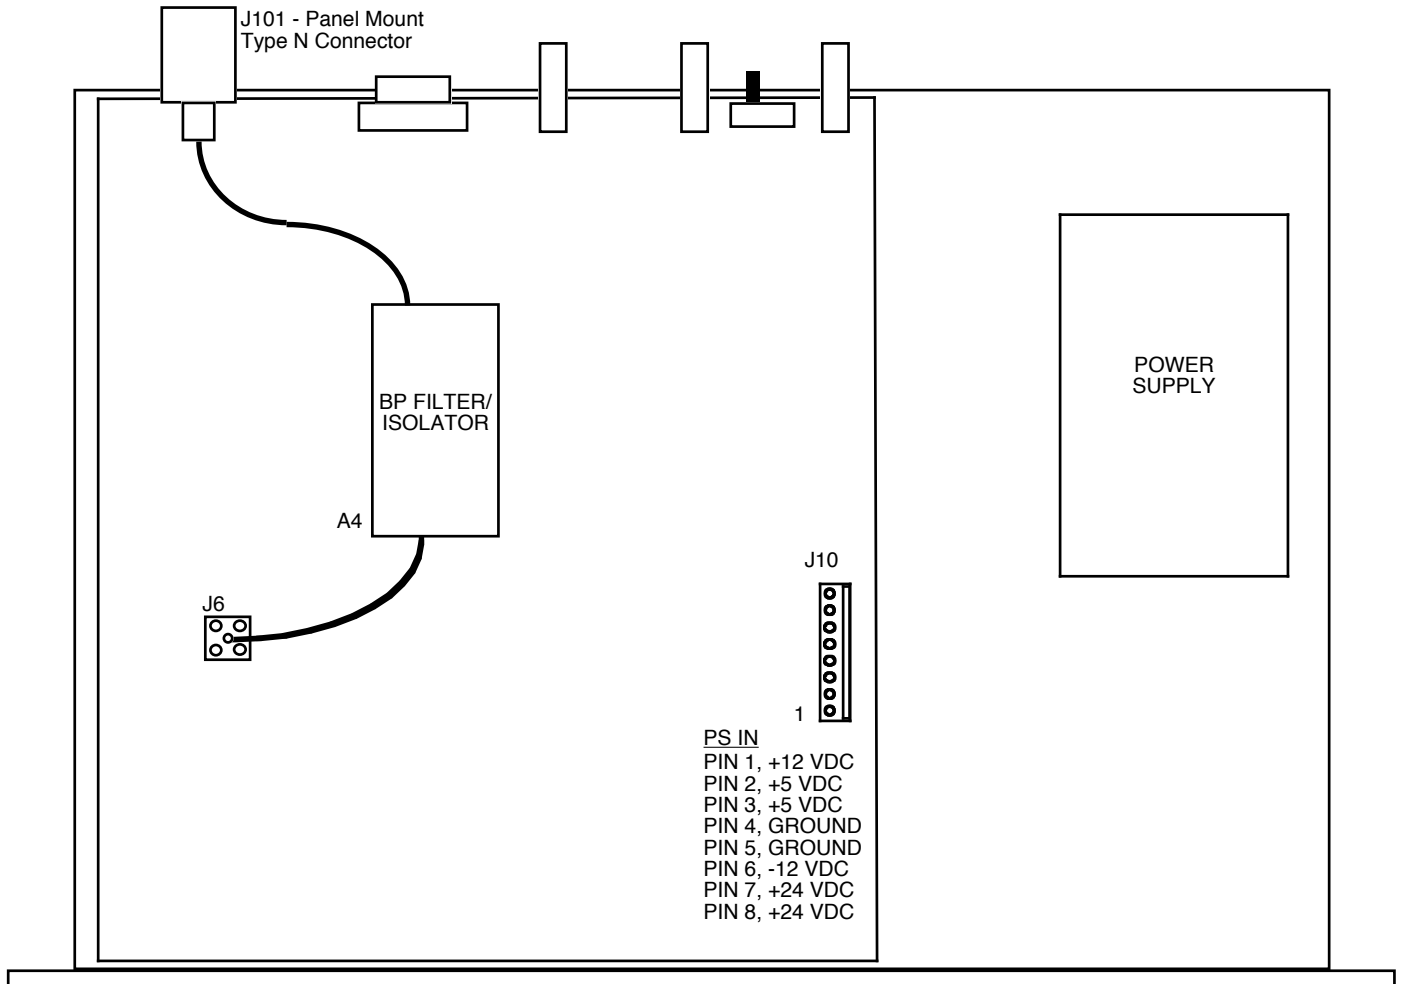

FIGURE 2.0 2116-182193 Mechanical Assembly
2.1 Mechanical - The 2116-182193 consists of one RF PCB housed in a 1 RU (1 3/4 inch high) by 14 inch deep chassis. A switching, ± 12 , +24, +5 VDC power supply provides power for the assemblies. The 2116-182193 can be secured to a rack using the 4 holes on the front panel. Figure 2.0 shows how the 2116-182193 is assembled.